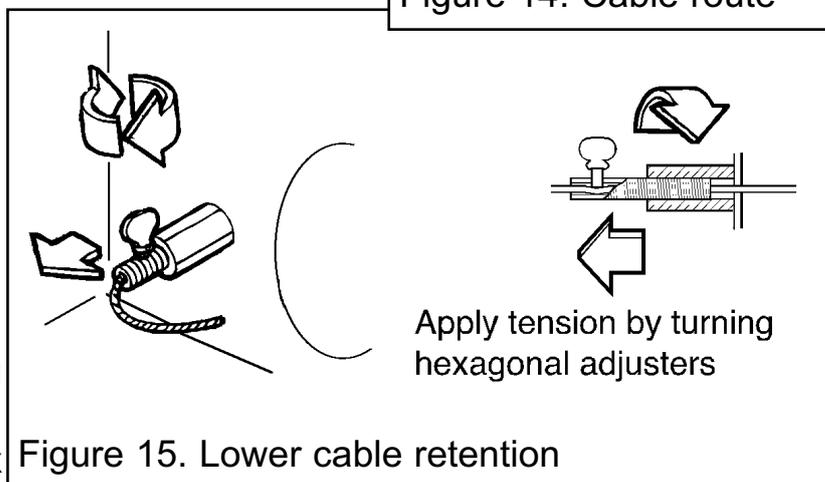

Figure 15. Lower cable retention
**9.** Pull each cable taut. Push the cable retainers hard up against the back panel. Tighten the screws in the retainers so that they clamp the cables in position. Apply tension to the cables by turning the hexagonal adjusters by hand (See figure 15).